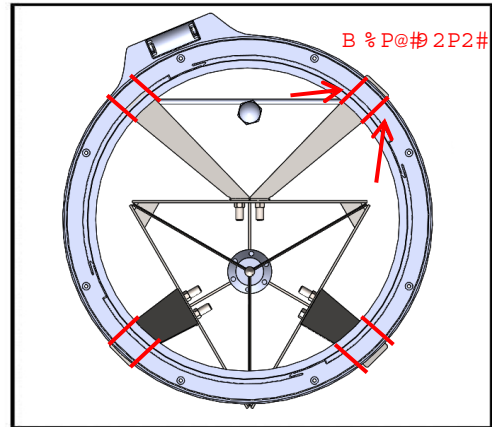

Fig. 2
5. Certain brands of poly tanks have built in support flanges just below the lid. If your tank has such a flange, set the Chem-Blade into the tank as far as you can for mock up. Use a marker to trace and outline the outside edges of the legs (Fig. 2). Trim in between the marks to allow Chem-Blade to rest onto tank opening properly. Suggested tools for flange trimming: Sawzall, Hacksaw, Drill, and various wood/metal working tools.